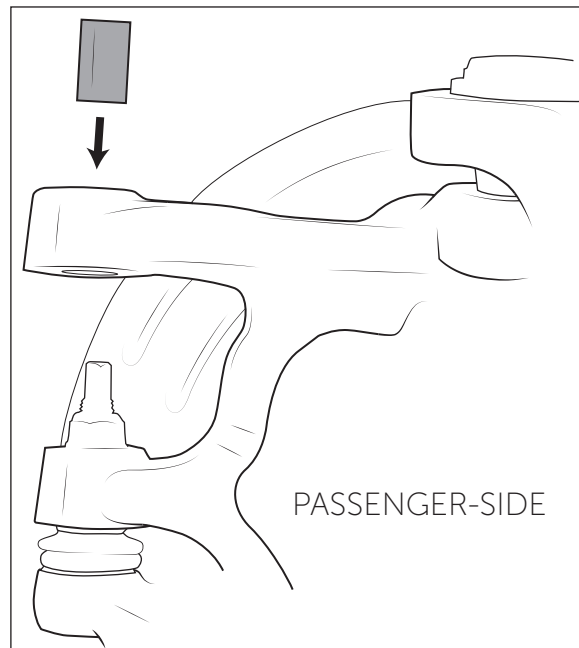

Figure 37
19. Remove the Factory Passenger Side Knuckle and install the supplied AEV Knuckle. Make sure tapered sleeve is fully inserted into machined hole with large end of tapered hole facing upward (fig. 37).